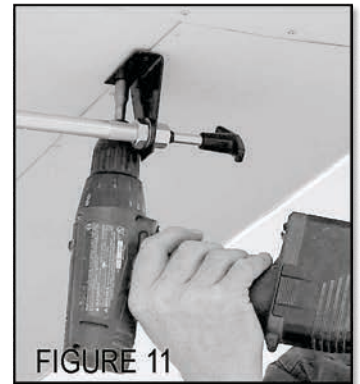
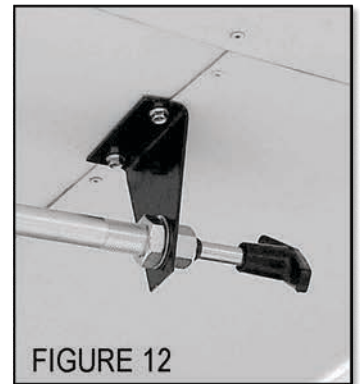

FIGURE 11
FIGURE 12
11. Attach the remote cable bracket (the part with the T-handle on the end of the cable) and the 2 self tapping screws. Choose a location under the trailer overshoot that will allow the screws to penetrate the framing of your trailer. **(See Figure 12).** DO NOT rely on only penetrating the trailer skin, or the cable handle will work free. We recommend you keep this mounting spot within 24 inches of the trailer centerline to assure that the bracket and T-handle have sufficient clearance from the tow vehicle side boards to avoid crushing them when on uneven terrain or when turning. Secure the handle bracket to the frame with the self tapping screws **(See Figure 11).** Do not leave the remote cable assembly flopping loosely in your tow vehicle bed. It will inevitably get snagged on something and become damaged.